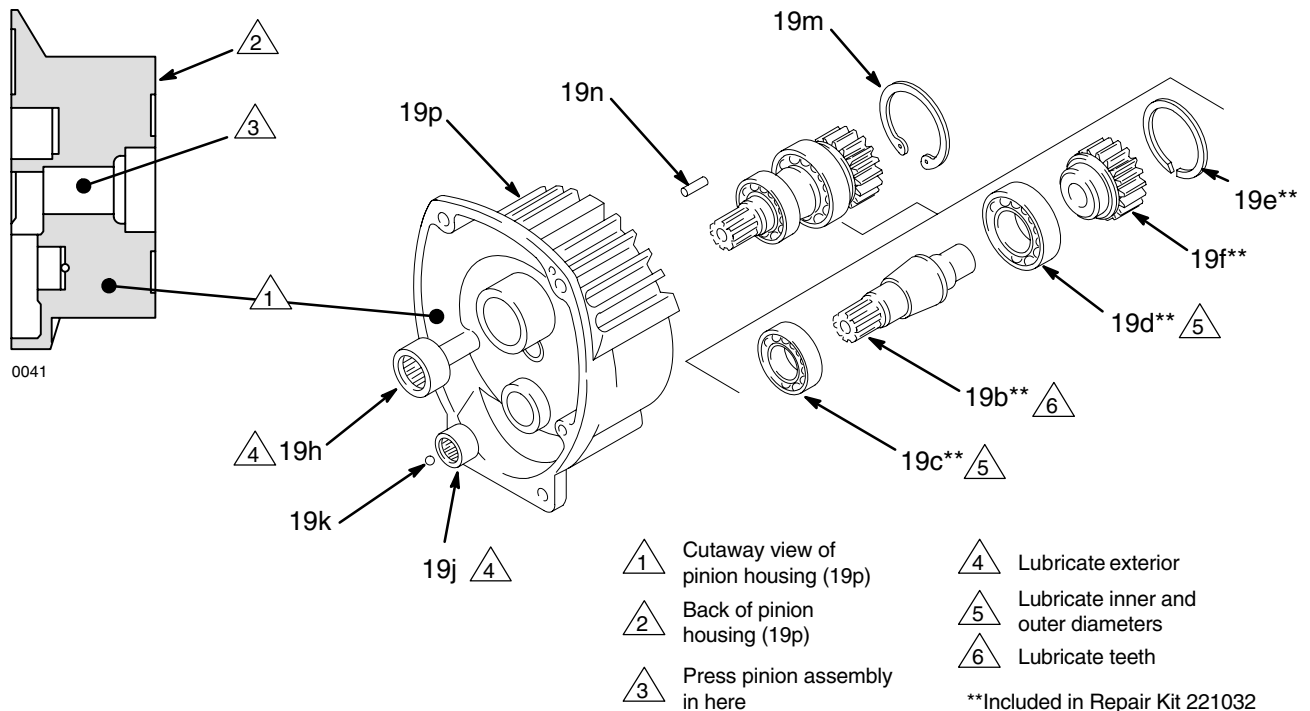

Fig. 19
1. Remove the two bottom screws (3) first, and then remove the top three screws (3).
2. Pull the pinion housing (19p) away from the clutch housing (17). The armature (9b) will come with it.
3. Pull the armature (9b) off the hub (19j – see Fig. 19) of the pinion housing.
NOTE: Refer to Fig. 19, except where noted.
5. Apply lubricant to the parts as shown in Fig. 19.